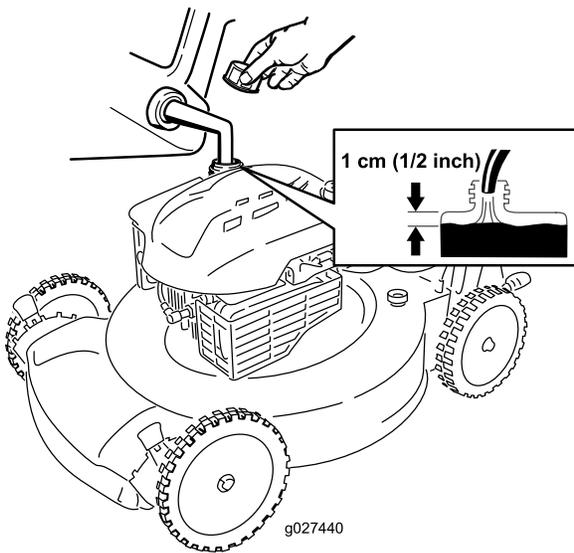

Figure 10
- Fill the fuel tank with fresh unleaded regular gasoline from a major name-brand service station (Figure 10).